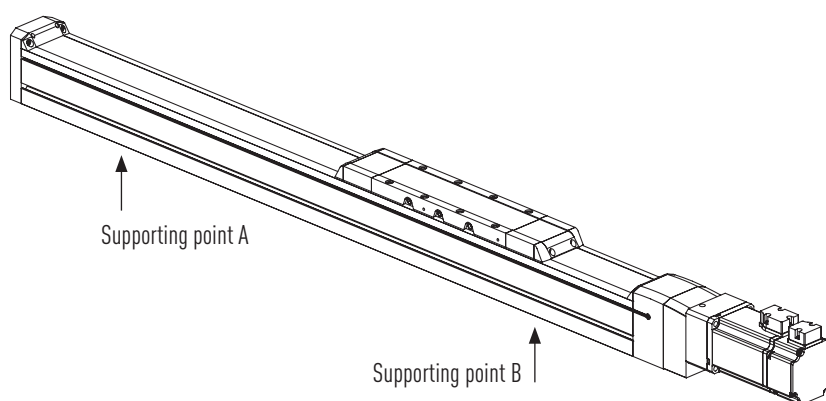
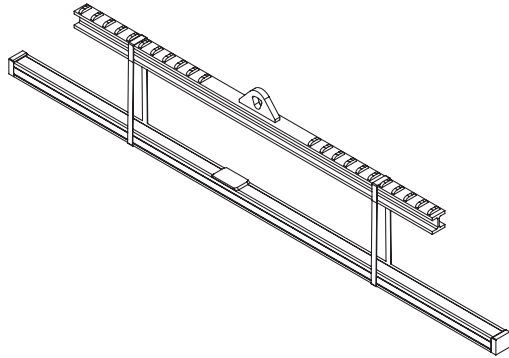

Fig. 5.1 Supporting points A and B for hoisting and transporting, here on a linear axis HM-S
Fig. 5.2 **Correct position of the supporting points**
- ▶ To transport the linear axis, hoist it at the points designated A and B (see Fig. 5.1, Fig. 5.2 and Fig. 5.3). The points A and B should be a quarter of the axis' overall length from each of its ends.